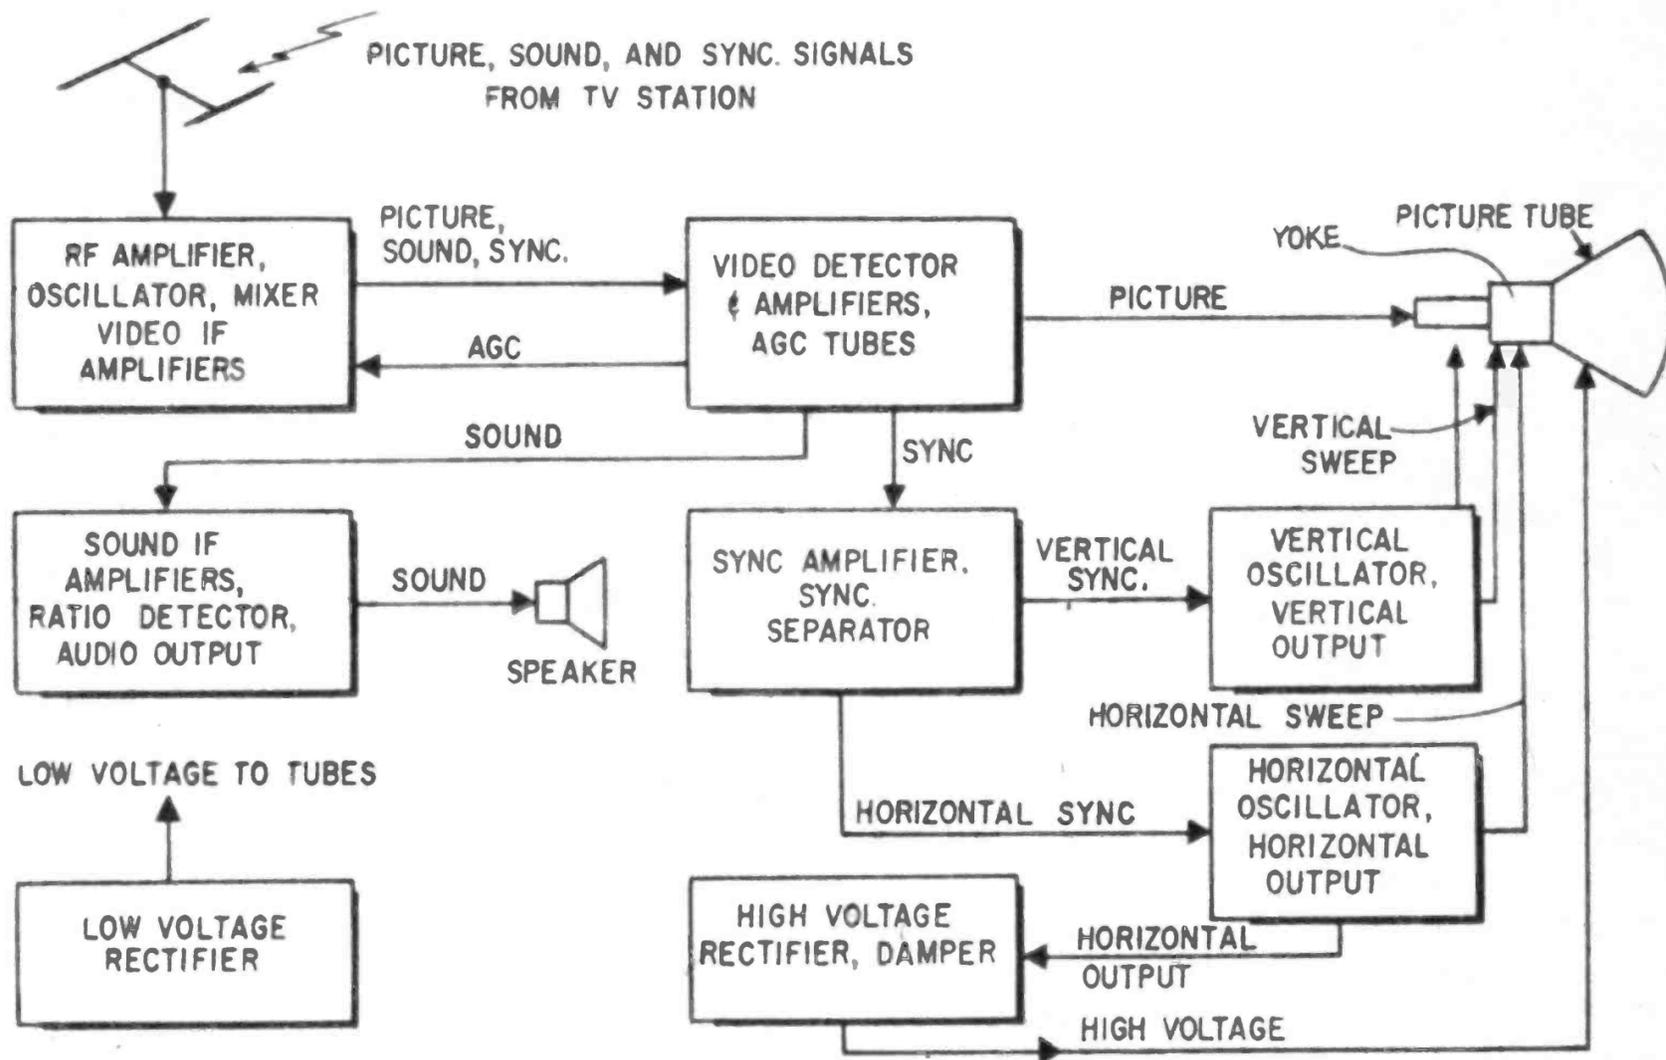

Fig. 2. Block diagram of TV circuitry is just about the same for all black & white TV sets.
**Around the Block.** Now, let's take a look into your TV set. Fig. 2 is a simplified block diagram showing the electronic-tube circuits in a *typical* black-and-white television set. Let's trace the routing of signals through the diagram. As we do this, refer to the tube location diagram in your own set and see if you can find tubes whose functions are the